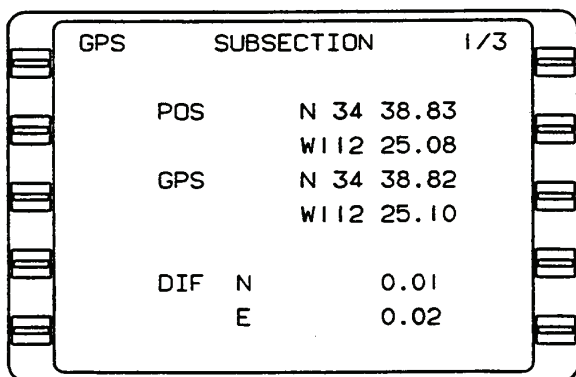

Figure 3A-30. GPS Subsection 1/3 Page
(2) *GPS Subsection 2/3 Page.* Refer to Figure 3A-31.